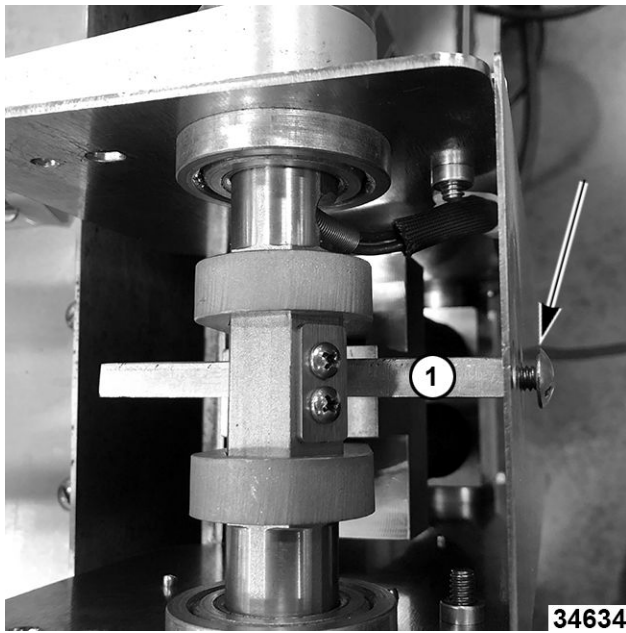

Fig. 21
- Secure bracket by threading one mounting screw back into bracket (1, Fig. 21) through rear of cover.
TOP VIEW SHOWN IN Fig. 21